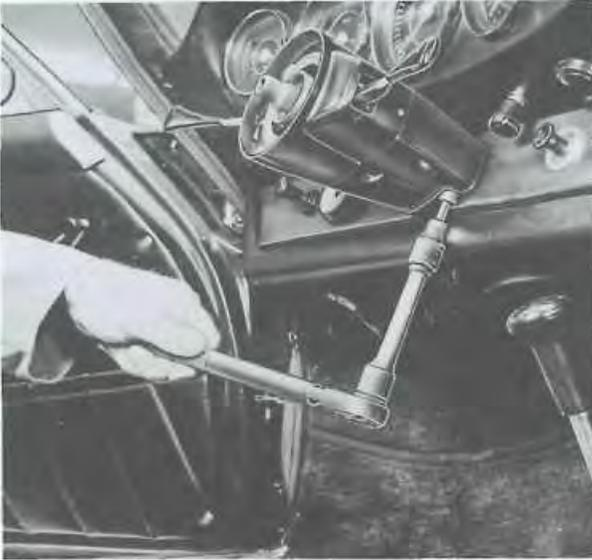

Fig. 101
5. Turn clamp to the right, over the locking pin, torque clamping Allen bolt (use spring washer) to 2,5 mkp (18,1 lb/ft). See Fig. 101.